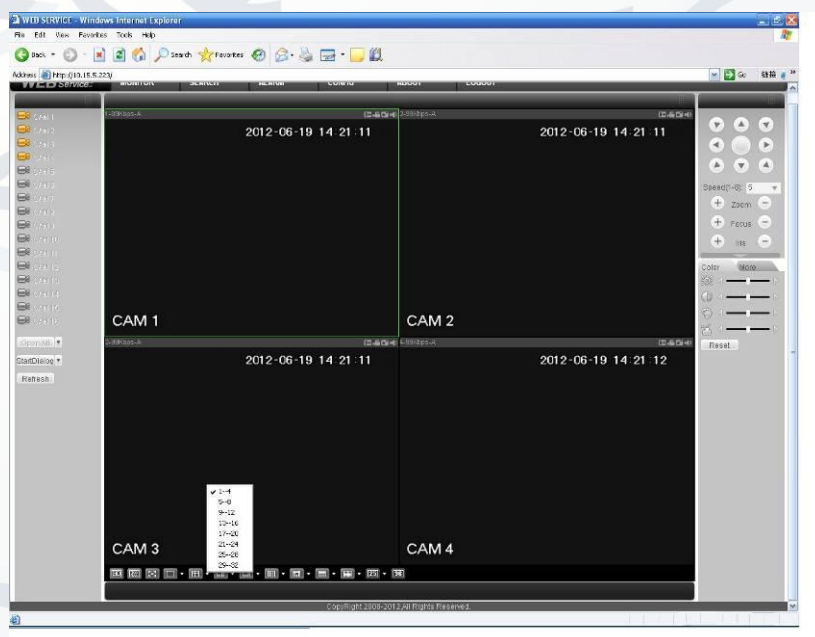

Figure 7-15
2. You can select different channel and different monitor mode at the bottom of the interface (see Figure 7-15).